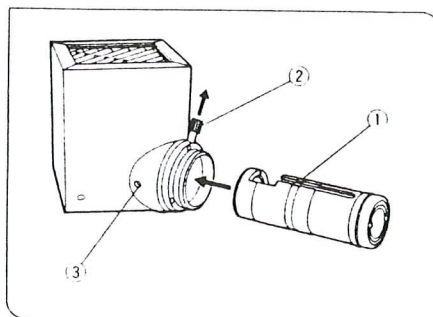

Fig. 7
1. Align the collector lens positioning groove ① with the pin inside the lamp housing, pull up the collector lens focusing knob ②, and slide the collector lens into the lamp housing as far as it will go. Then, return the collector lens focusing knob ② to its original position. At this point, check that the collector lens can be moved back and forth by turning the focusing knob ②. If not, adjust the position of the collector lens by hand so that it will click into its proper position.
2. Tighten the collector lens retaining screw ③ (Fig. 7)